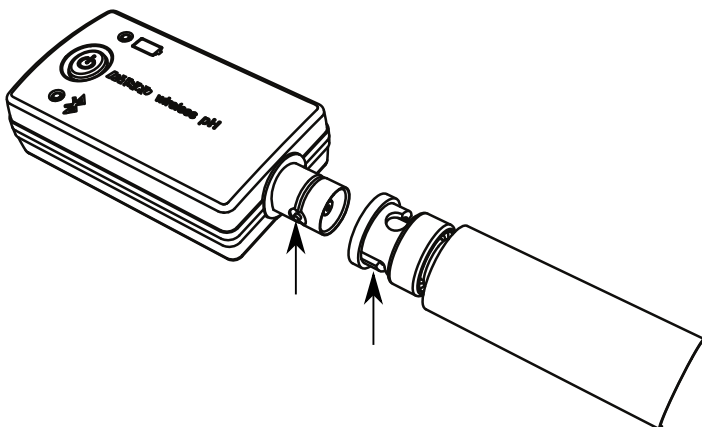

Figure 1. Aligning the tabs on the BNC connectors.
- Align the tabs on the sensor's BNC connector with the slots on the probe's BNC connector, as shown in Figure 1.